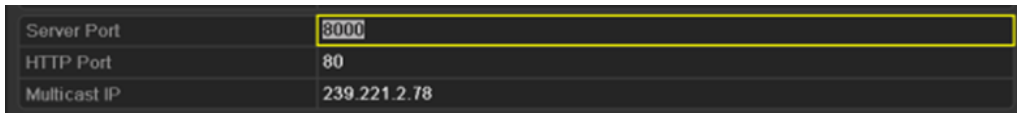

Figure 9. 19 Host/Others Settings Menu
2. Select the **More Settings** tab to enter the More Settings interface, as shown in Figure 9. 15.